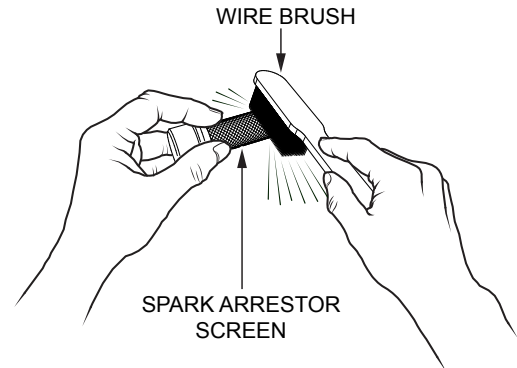

Figure 32. Cleaning The Spark Arrester
4. Carefully remove carbon deposits from the spark arrester screen (Figure 32) with a wire brush.